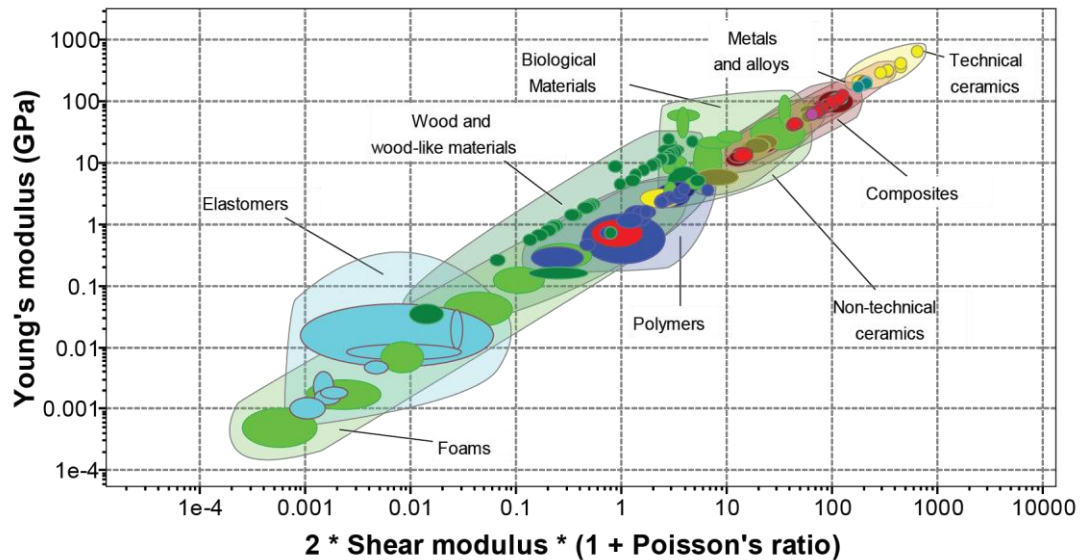

Figure 5. Plot of Equation (1) from Callister's Book. Created using the Advanced axis function of CES EduPack
Equations can also be visualized through plotting; see how the relationship between Shear Modulus (G), Elastic Modulus (E), and Poisson's ratio (ν) in Equation 1 (Equation 6.9 from Callister) is made apparent in Figure 5.